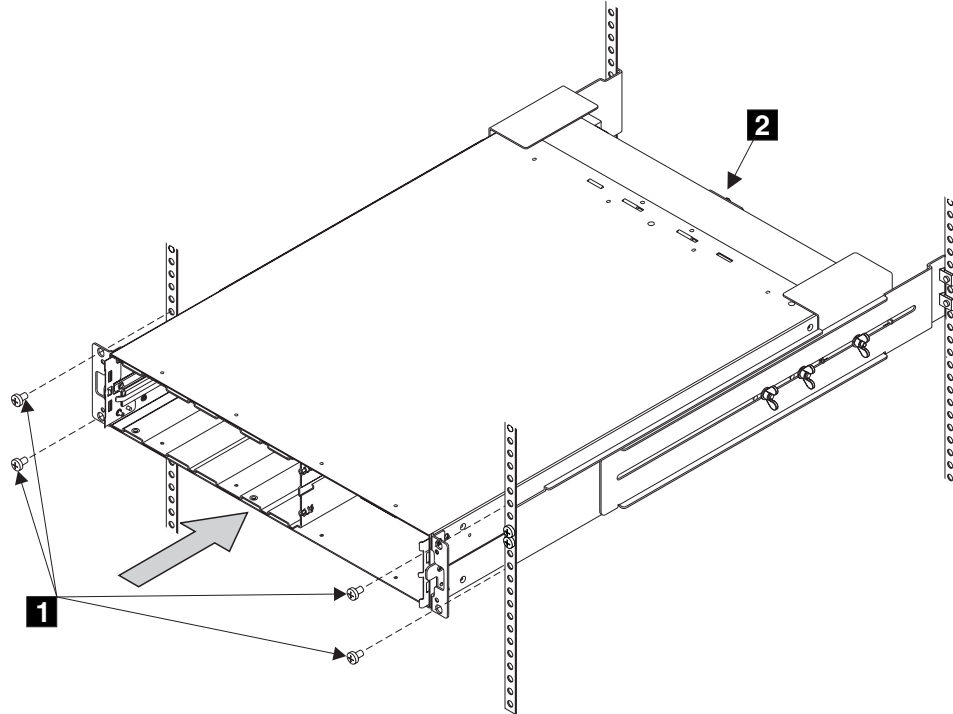

Figure 33. Installing the 2145 UPS into a rack
6. Install the front flathead screws (**1** in Figure 33 on page 45).